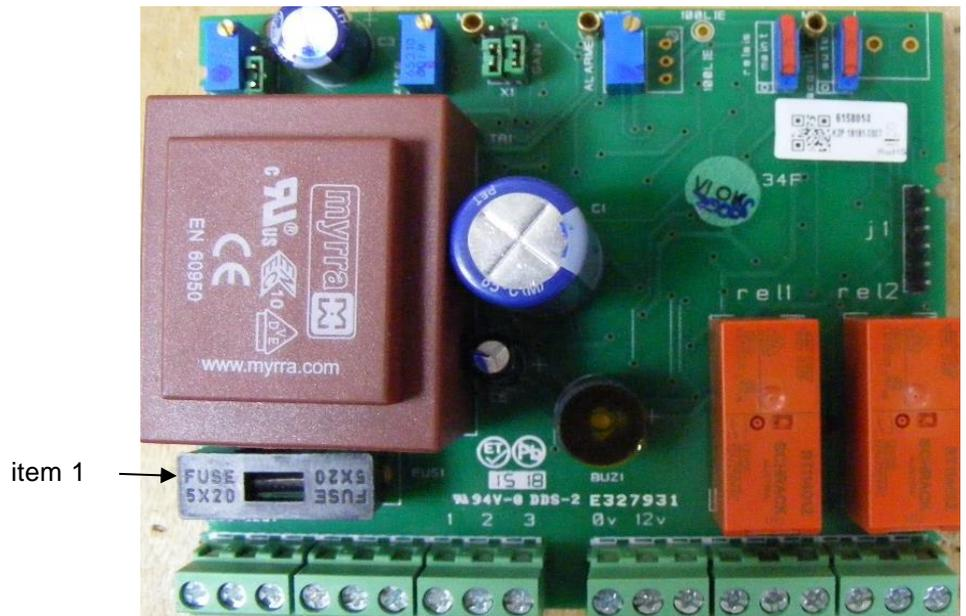

Figure 10
The fuse (Figure 10, item 1) must be replaced by qualified personnel only. The fuse is, and must be, in compliance with CEI 127, with time-delay, low breaking capacity and a voltage of 250 V ~.